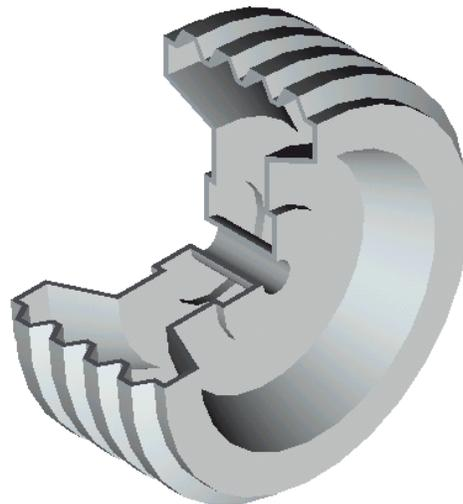

Figure 4-45 Model created by revolving the sketch
- c. Invoke the **Revolve Boss/Base** tool and revolve the sketch through an angle of 270-degree, refer to Figure 4-45.
7. Choose the **Isometric** button from the **Standard Views** toolbar to change the view to isometric view. The revolved feature is shown in Figure 4-45.